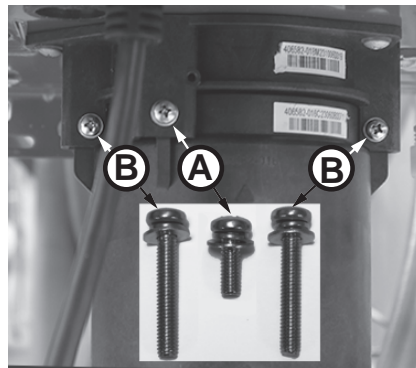

Figure 183 - Identify cartridge screws
- 6 Locate the three (3) screws securing the X3®/Bypass cartridge as shown in Figure 183. Remove the (A) M4-12mm screw and the two (B) M4-25mm screws from cartridge. Place screws aside in a safe place for reinstallation.